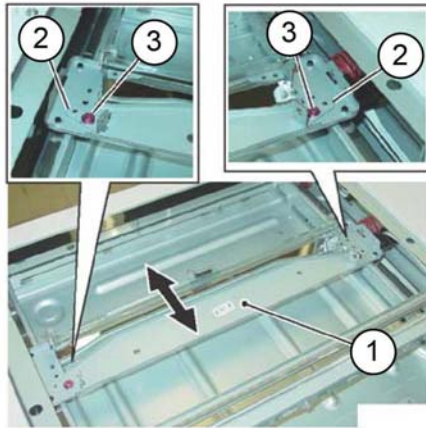

Figure 4 Half rate carriage positioning
6. Position the half rate carriage, Figure 4:
- a. Move the half rate carriage (1) to the alignment pin insertion position (the slots in the lower guide rails).
- b. Install the two alignment pins (2).
- c. Tighten the two screws (3).